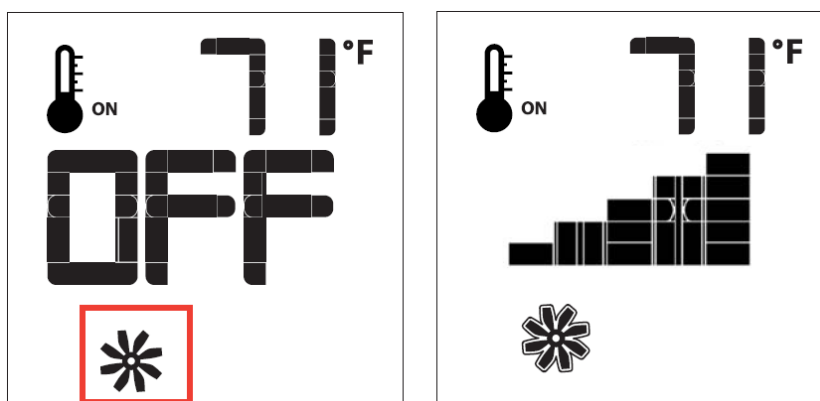

Figure 10: Fan Control
If the appliance is equipped with a hot air circulating fan, the speed of the fan can be controlled by the Proflame system. The fan speed can be adjusted through six (6) speeds. To activate this function use the Mode Key (fig.1) to index the fan control icon (Fig. 10). Use the Up/Down Arrow Keys (Fig.1) to turn on, off or adjust the fan speed (fig. 10). A single “beep” will confirm reception of the command.